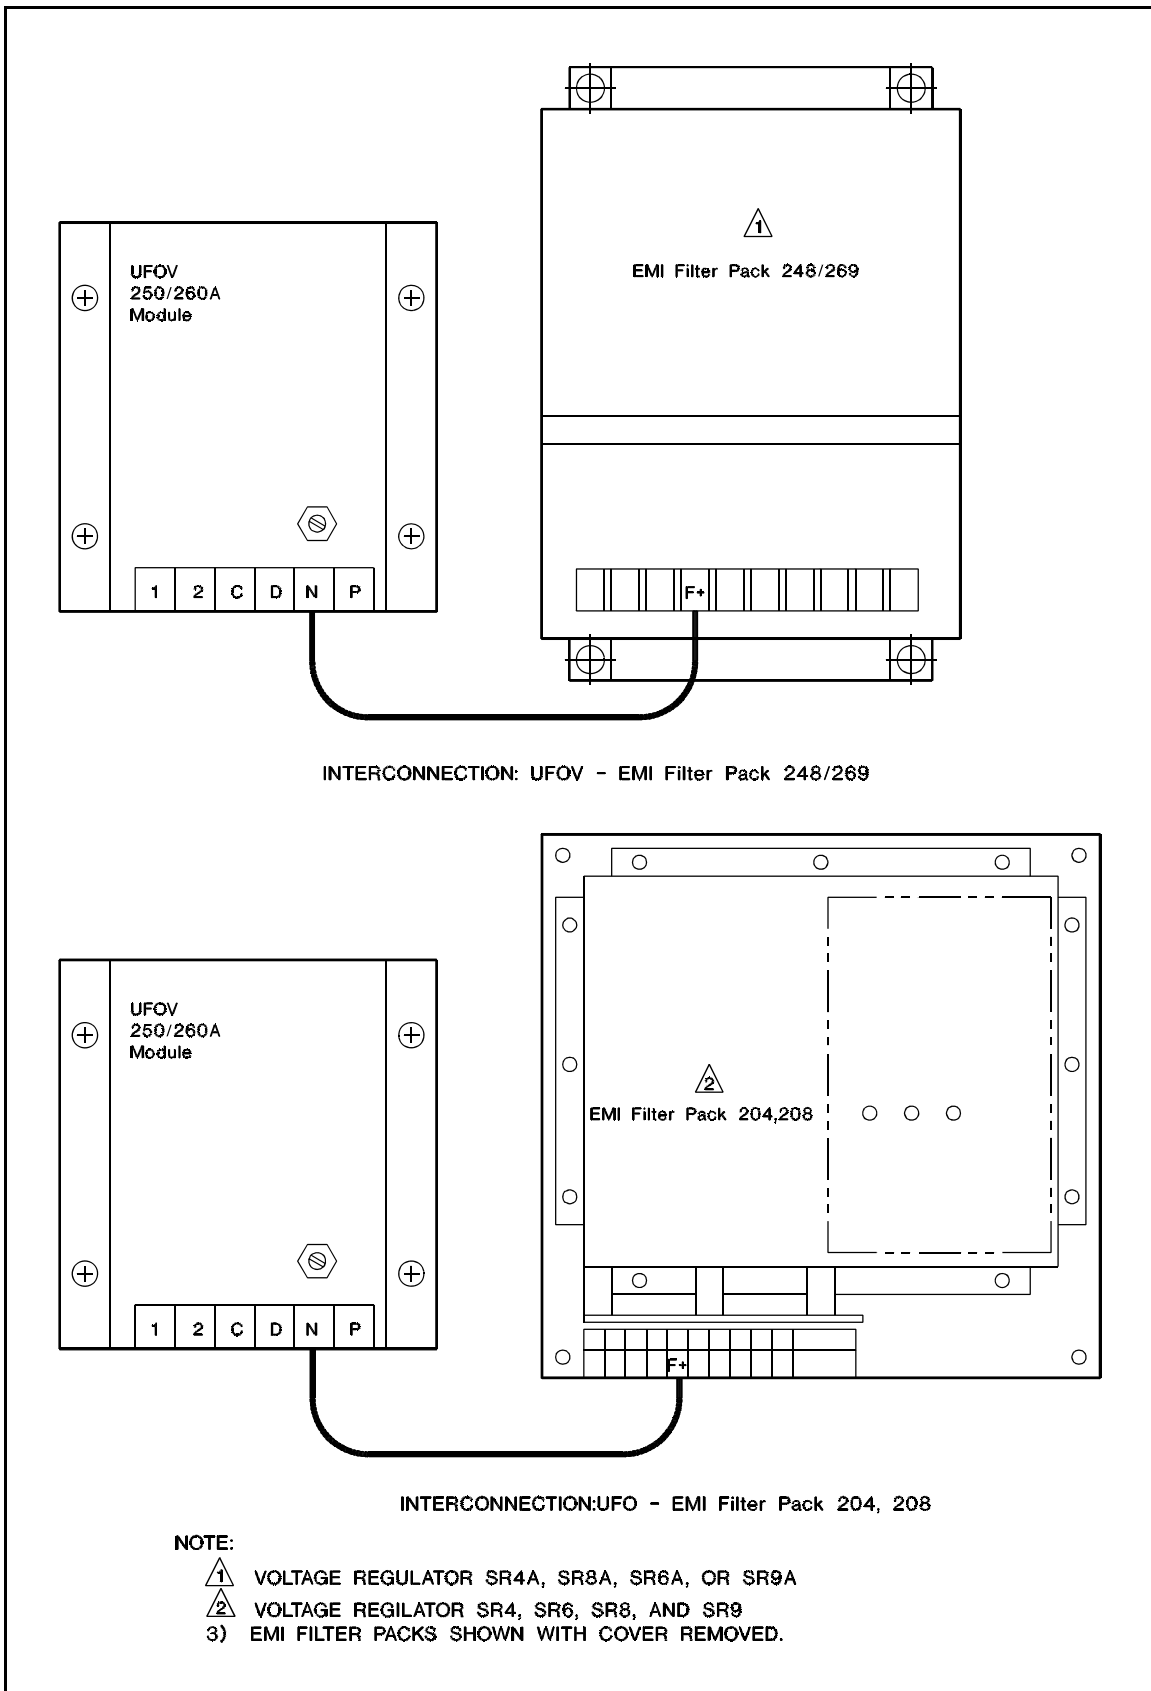

Figure 3-8. UFOV and Filter Pack Connection.
(1) When the UFOV 250A/260A is used in conjunction with the EMI filter pack, the UFOV module terminal N must be connected directly to the F+ terminal of the voltage regulator. Refer to Figure 3-8.